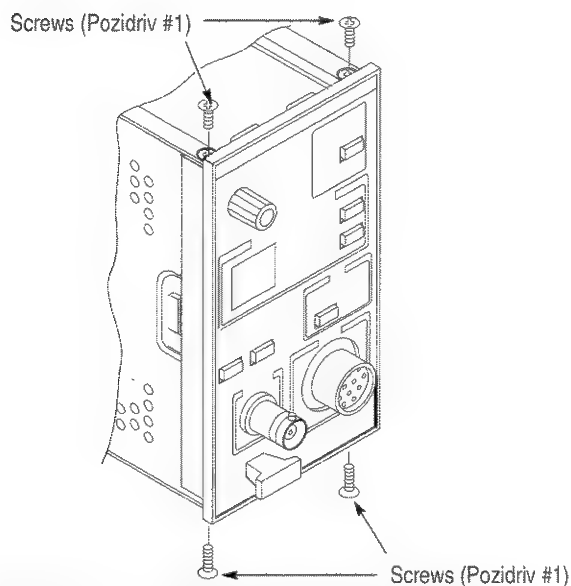

Figure 7-4: Location of Front Panel Screws
4. Using a Pozidriv #1 screwdriver, remove the two top screws and the two bottom screws that hold on the front panel and remove the front panel. Figure 7-4 shows the screw locations.